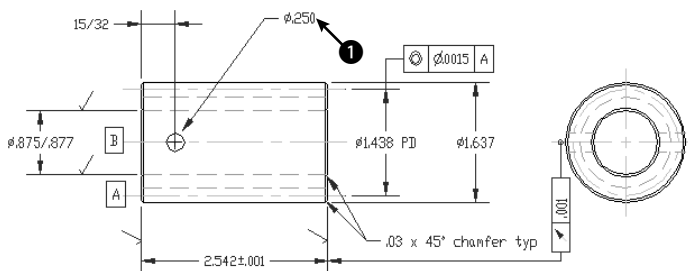

Figure 15-40: A mechanical drawing using geometric tolerances.
2. Save the file as *ab15-06.dwg* in your AutoCAD Bible folder. This drawing of a gear operator is shown in Figure 15-40. The *Dim* layer is current. If the Dimension toolbar is not visible, right-click any toolbar and choose *Dimension*.
7. At the Enter tolerance location: prompt, pick ❶ in Figure 15-40 to place the geometric tolerance.